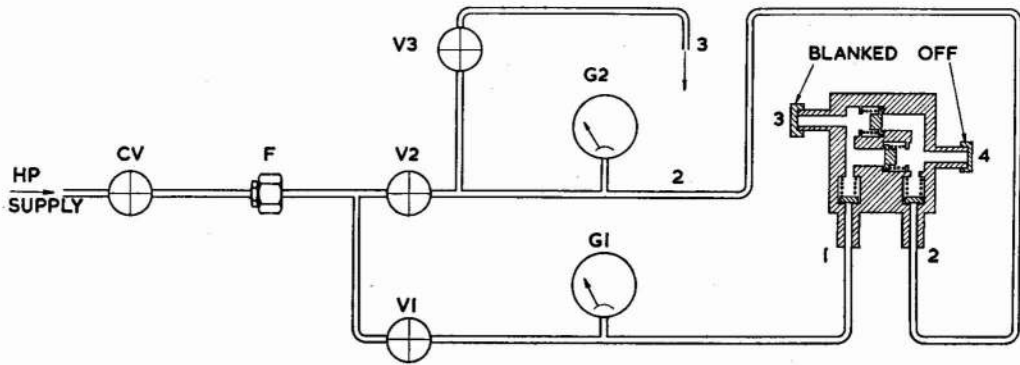

Fig. 4. Test rig, external leakage test, check valve, 6D/2265
- (2) Connect to pressure and leak test rig as shown in fig. 4.